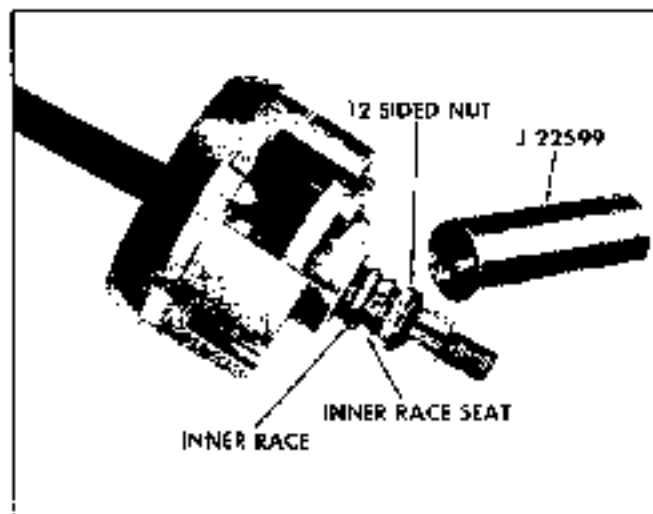

Fig. 9-23 Removal of 12-Sided Nut
10. While holding end of steering shaft remove the 12-sided bearing locknut, inner race seat and inner race with tool J 22599 (Fig. 9-23).